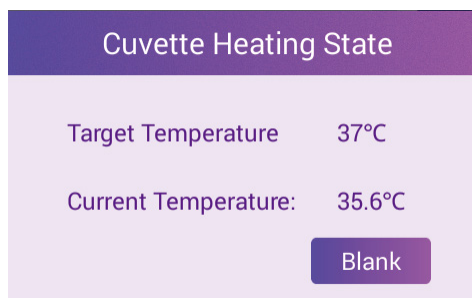

Figure 40
(4) Click "Run".
(5) Perform the blank measure, fill enough blank measure solution in a clean and dry cuvette to cover the optical path of the instrument. Lift the upper arm of the instrument and insert the blank measure cuvette into the cuvette slot, make sure the optical path of the cuvette is aligned with the optical path of the instrument, and click "Blank Measure".
(6) If "Heat to 37°C" is selected in the general setting, the current temperature will be displayed, and wait for the heater to reach the target temperature before starting the measure. Click "Blank Now" to start blank measure, as shown in Figure 40.
(7) Take out the cuvette when the blank measure is finished.